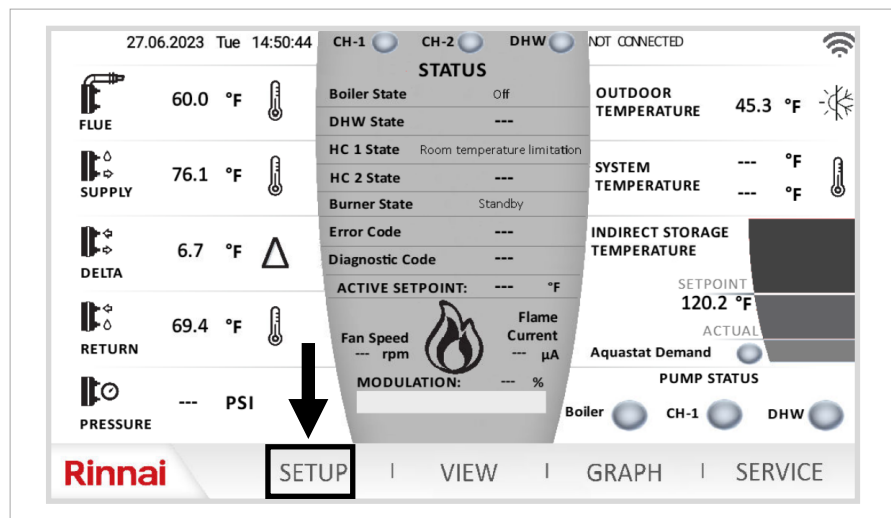

Fig 1
1. Press “Setup” on the home screen (Fig 1).The control will prompt the user to choose the access level and enter password. The password for Installer is **9419**. The technician and Engineer user levels can **ONLY** be accessed by a Rinnai employee.